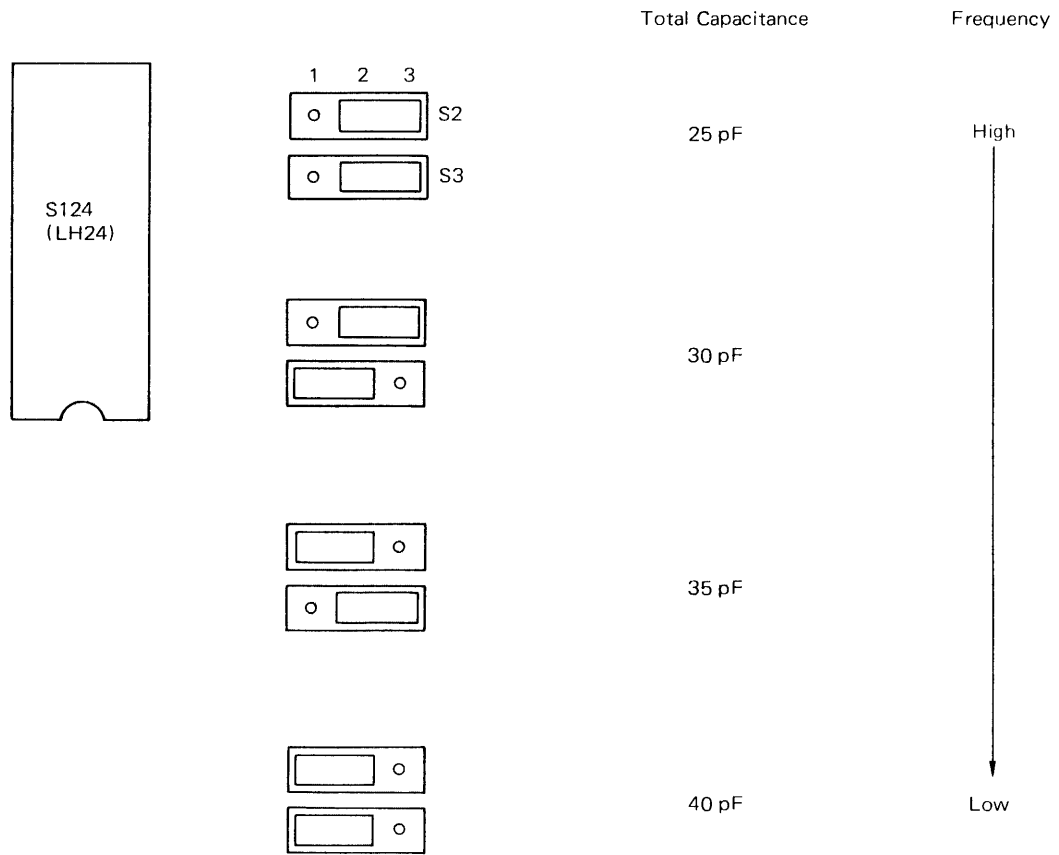

Figure 6-6-13 PLO Free-run Frequency Adjustment
8. Select the proper capacitance as shown in Figure 6-6-13 so that the frequency of TRM4-5 is closest to 1.229 MHz as possible.